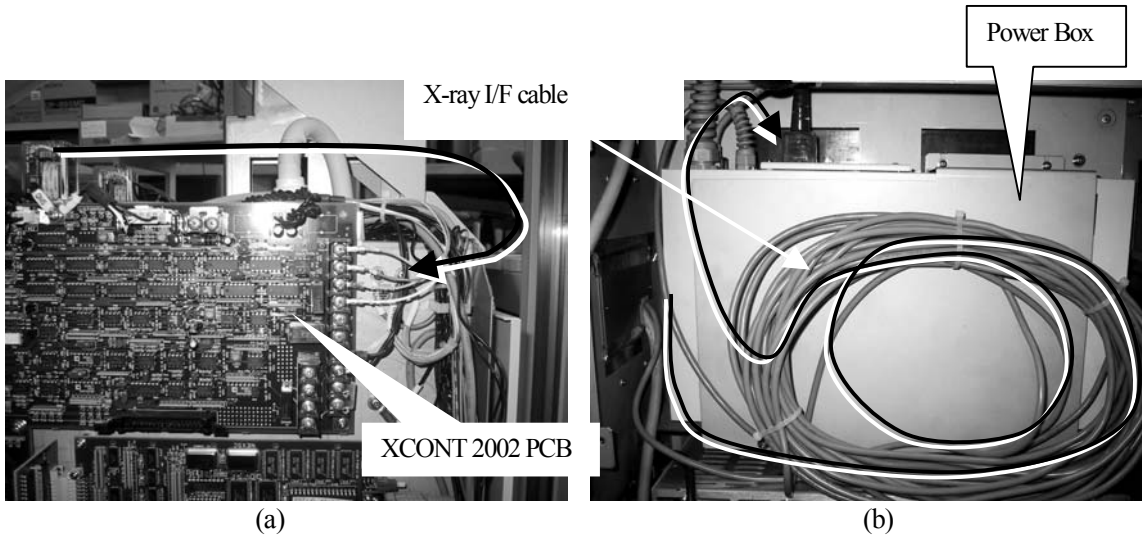

Fig.4-22 Wiring of X-ray I/F cable
4. Connect X-ray I/F cable which is included in CXDI-50G between Power Box and XCONT 2002 PCB. (Refer to Fig.4-22 and "CXDI-50G Service Manual".)